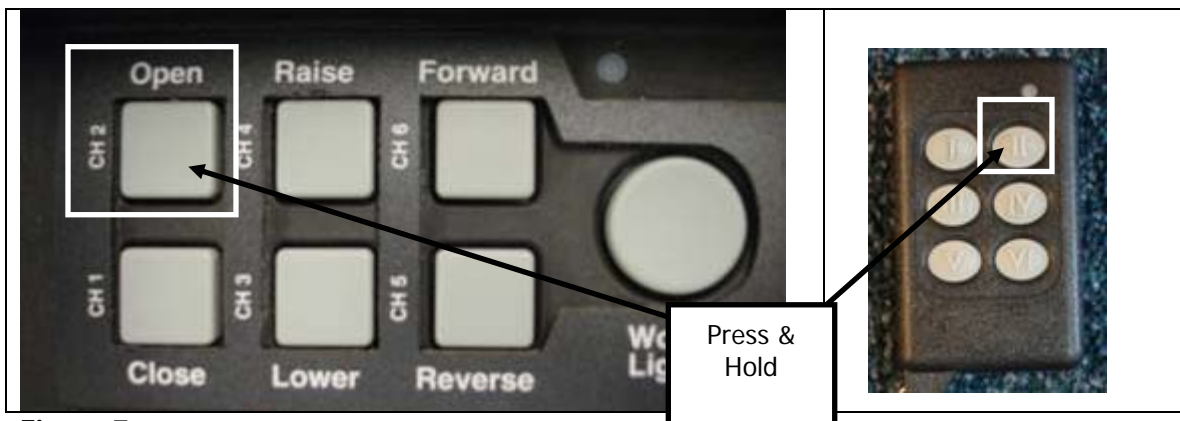
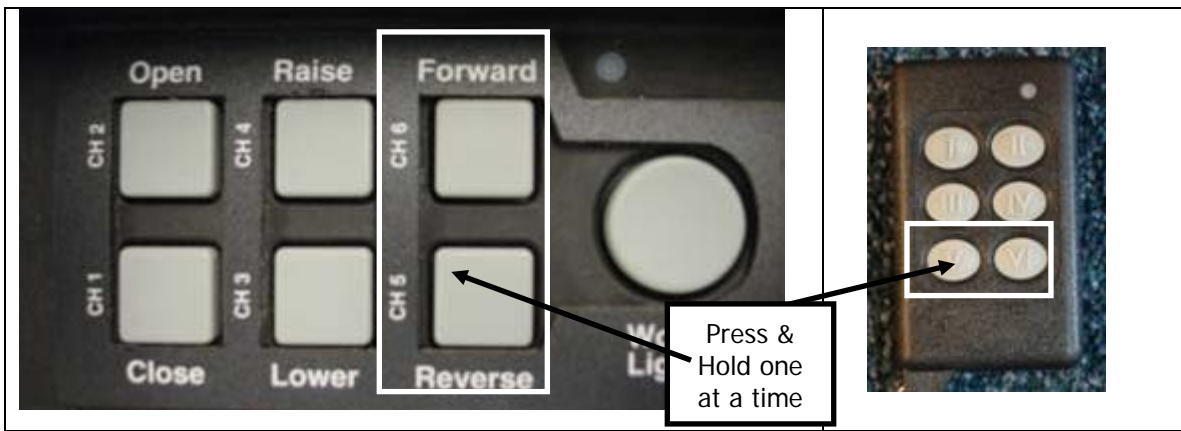

Figure 7
Figure 8
- 3) Wind the tarp in far enough to clear the container as it is dumped or unloaded. To wind the tarp press & hold button 2 on your control box or key fob (see Fig. 7). On non remote control systems there will be a switch to operate you tarp in and out. If you have sliding pivots you may wish to adjust these also to give more container clearance. Buttons 5 & 6 on your control box or key fob will operate your sliding pivots for and aft (see Fig. 8).